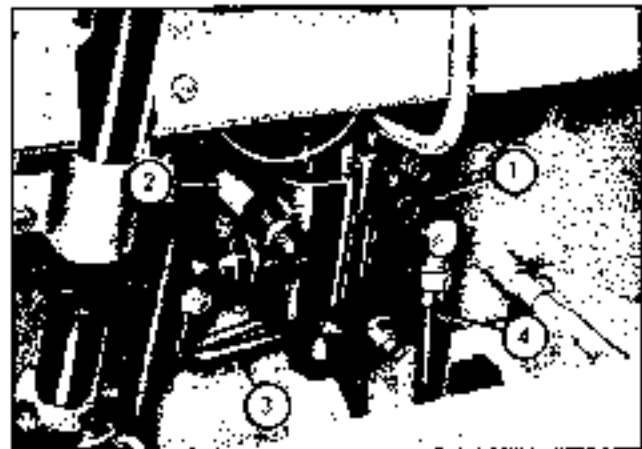

Fig. 152. Single spool valve
- d. Install control levers on valve and install elbows. Figs. 152 and 153 show the correct elbow positions.
- e. Install valve, using pipe spacers between valve and cowl as shown in Figs. 152 and 153.